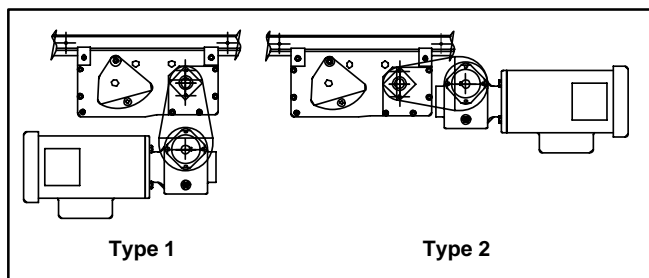

Figure 2
**NOTE:** Type 1 mounting package shown below left, Figure 2. Type 2 mounting package shown below right, Figure 2.